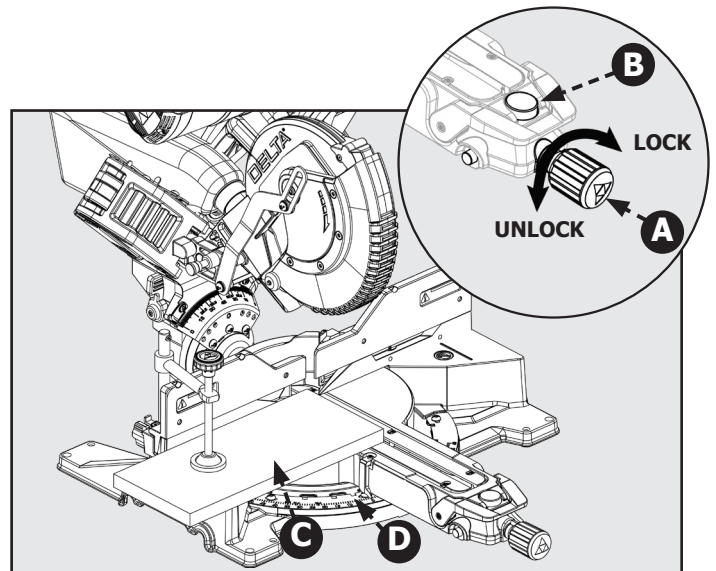

Figure 19
1. See Figure 19
3. Loosen the miter lock knob (A), use your thumb to push in the miter detent lock button (B), and set the miter arm angle to 0 degrees. Use the miter scale (C) and indicator (D) to locate the 0 degree miter position.
4. Release the miter detent button (B) and tighten the miter lock knob (A). Check that saw head is securely locked into position.